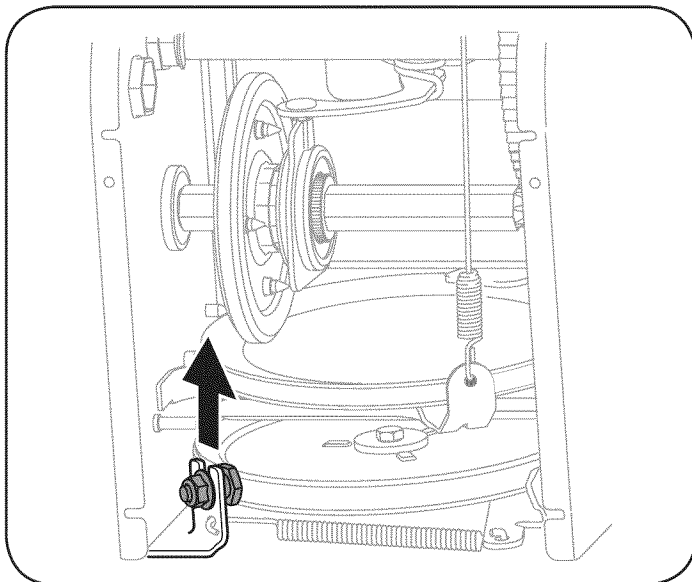
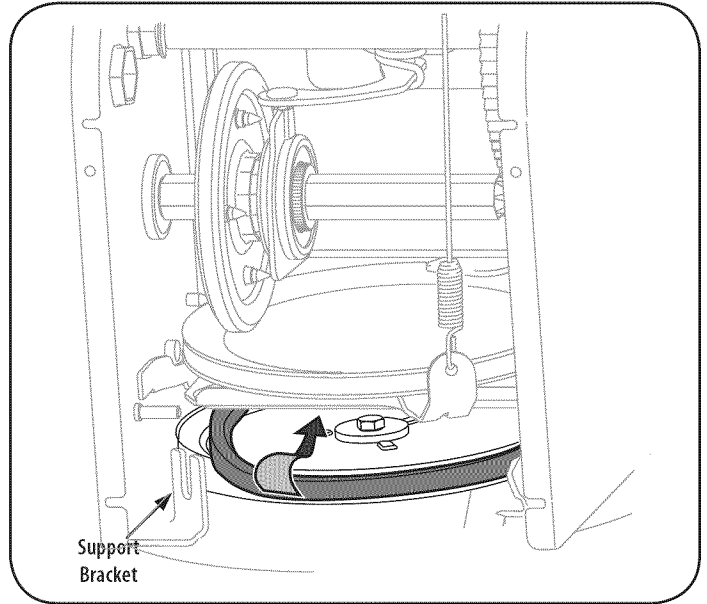

Figure 27
Figure 28
- Loosen and remove the shoulder screw which acts as a belt keeper. Refer to Figure 27.
- Remove the belt from around the auger pulley, and slip the belt between the support bracket and the auger pulley. See Figure 28.
**NOTE:** Do NOT forget to reinstall the shoulder screw and reconnect the spring to the frame after installing a replacement auger belt. See Figure 27 and Figure 28.